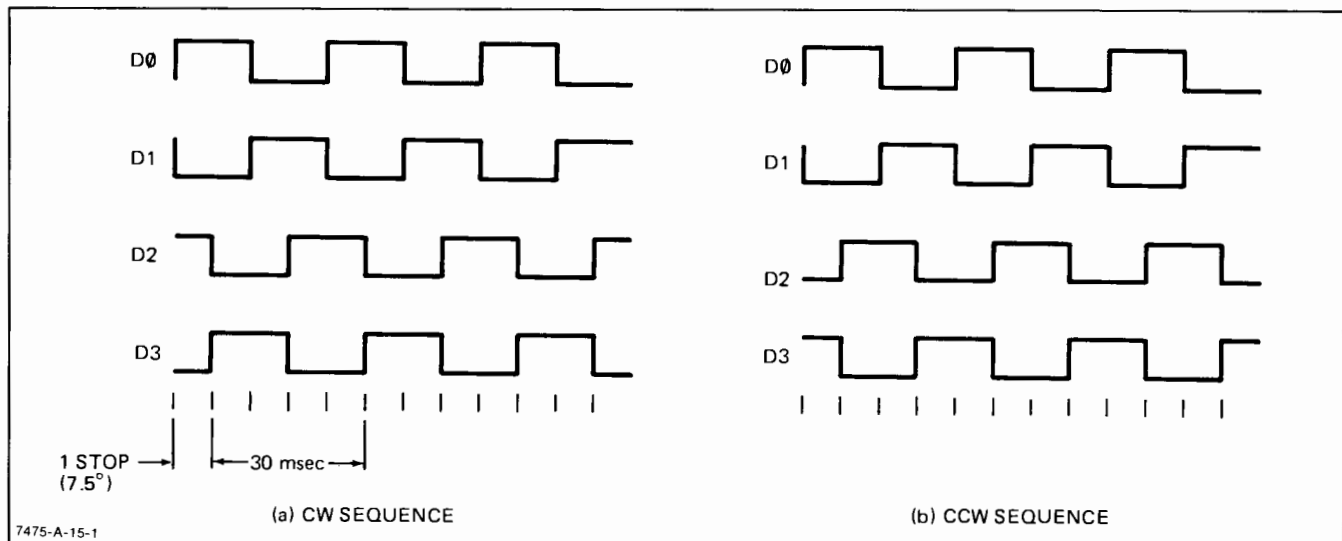

Figure 6-4. Quadrature Waveforms
6-36. The pen carousel is driven by a reversible, dual coil stepper motor. To drive the motor, the STEPPER CLOCK (STCK) from U5 and READ/WRITE (R/W) from the microprocessor are enabled to clock four (4) data lines through the gating flip-flops U18 (U17) to the motor drivers U19 (U18) and onto the motor coils. The resulting quadrature waveforms, shown in Figure 6-4 (A & B), drive the motor either clockwise (A) or counterclockwise (B). When at rest all four motor coils are open, i.e., all four lines are at logic 0.